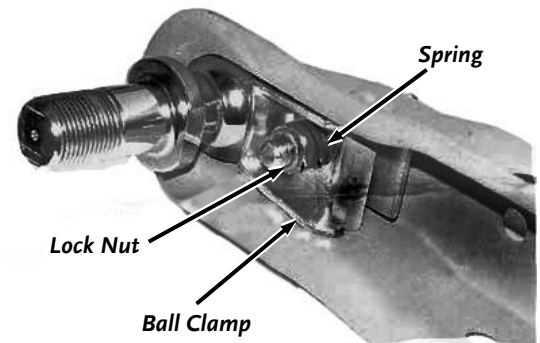

Figure 20
1. With the 2" Ball in the socket of the Receiver, close the Latch of the Receiver completely (**Figure 20**). Verify that the Locking Trigger is properly engaged in its detent.